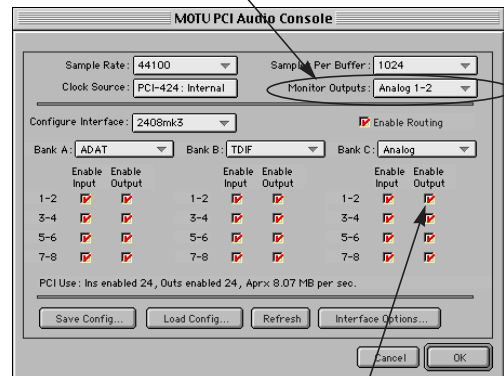

Figure 10-2: In this example, analog outputs 1-2 on a 2408mk3 interface will be used for Sound Manager output.
- 3 From the *Monitor Outputs* menu, choose the desired output pair for Sound Manager as shown below in Figure 10-2. If the pair you want is not available in the menu, click the *Enable Routing* check box and then click the *Enable Output* check box for the desired output pair.
4 As shown in Figure 10-2, check the box next to the input pair you would like to use for Sound Manager.
To change the PCI-424 output being used by Sound Manager, run the MOTU PCI Audio Console, and choose the desired output pair from the *Monitor Outputs* menu as shown in Figure 10-2 on page 98.